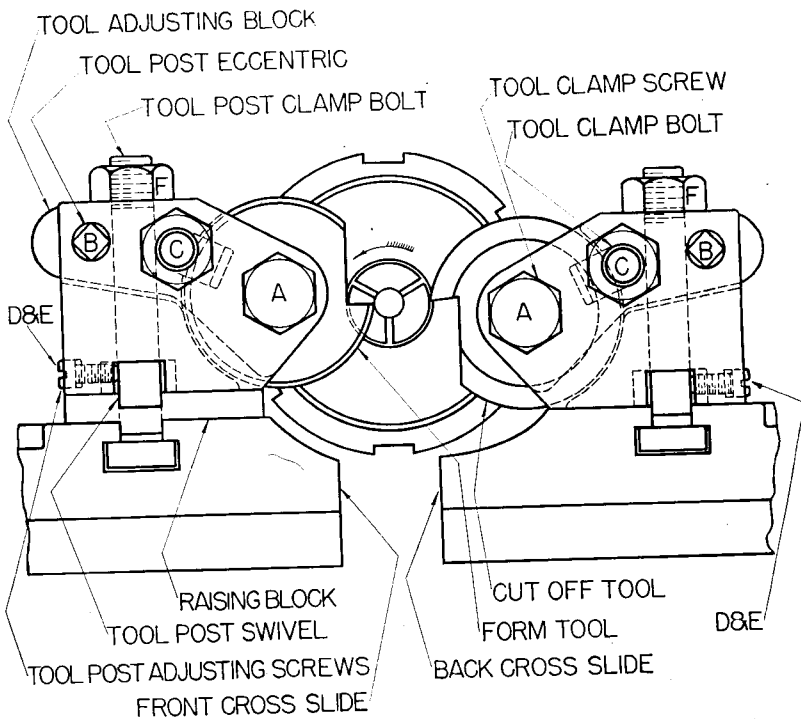

Fig. 9. Cross slides, and cutting-off and form tools
**Turn the Feed Adjusting Crank** until the Feed Pointer reads 1" on the Feed Scale, Fig. 9, Booklet No. 1.
The plan of the work sheet places the cutting-off tool on the back cross slide. For the forward direction of spindle rotation specified, the tool must be mounted with its cutting surface facing down, as shown in Fig. 9. For this direction and position of tool, the tool post is mounted directly on the cross slide.
**Mount the Tool Post on a Raising Block.** Since on the front slide the tool must be face up for forward rotation, a raising block is needed to bring the tool cutting edge on center with the work, Fig. 9.